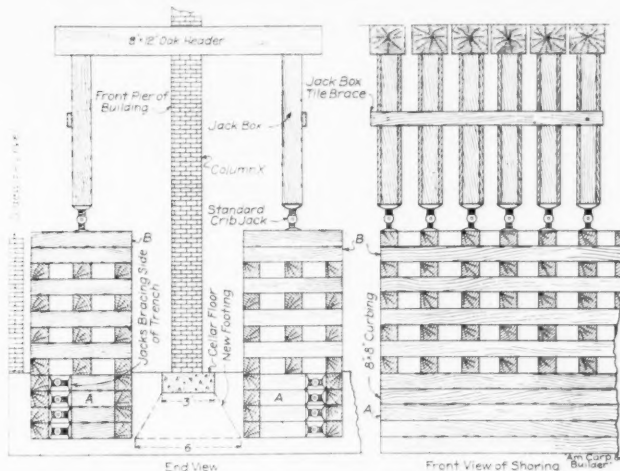

Fig. 2. Arrangement of Cribbing for Shoring Up Brick Wall.
Now, in order to carry the weight of walls and lower the footing to widen it, it was necessary to dig out pits down to the depth of new footing. In order to dig these pits for cribbing, we used 6 by 8-6 feet long for wall curbing, as shown in point (A), Fig. 2. This was done to prevent walls from settling and from